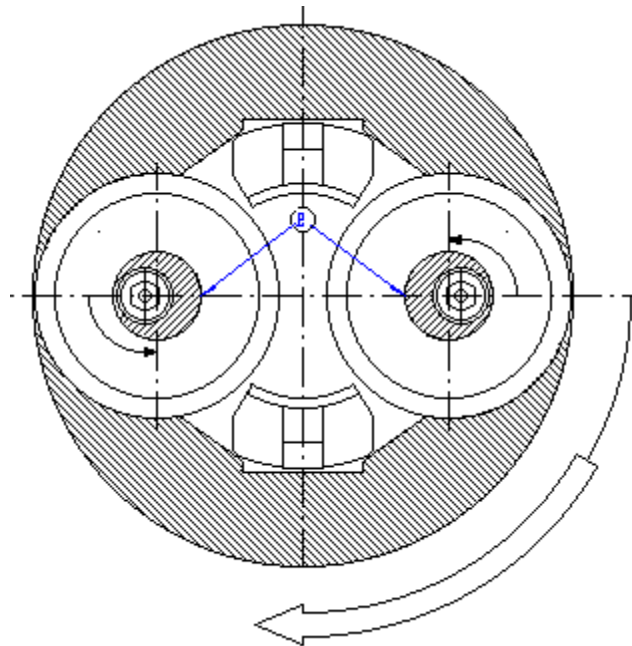

Fig.16 SZLH508 Pellet Mill pressure roller conditioning
(2) Assemble the roller assembly
- b. Assemble roller to the position shown in Figure16, make sure of the position of eccentric shaft shown by arrow "E";